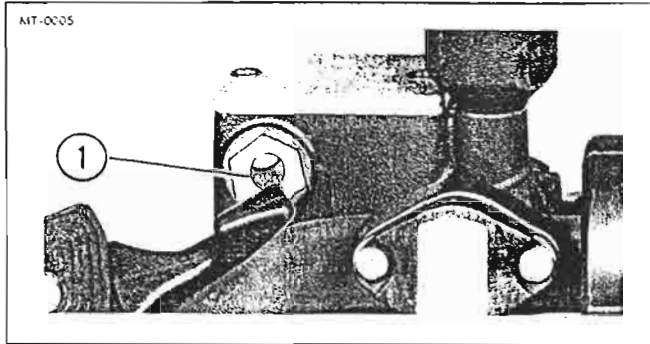

Figure 2-9. Front Brake Fluid Reservoir
See Figure 2-9. Visually check that fluid level in sight glass (1) of reservoir on right handlebar is about halfway between top and bottom of window.